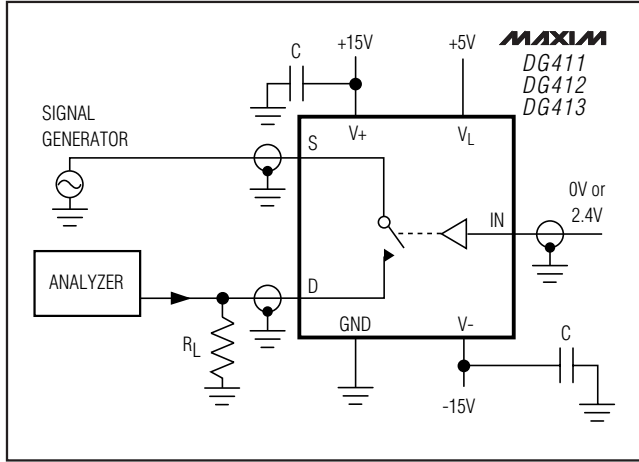

Figure 5. Off-Isolation
**Note 5:** Off-Isolation = 20log(VD/VS), VD = output, VS = input to off switch. See Figure 5.